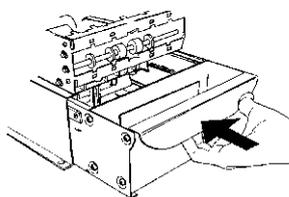

Figure 4-24. Slide note tray into dispenser mechanism.
5. Using the handle, slide the note tray into the dispensing mechanism. Make sure the note tray is fully inserted! (Figure 4-24)